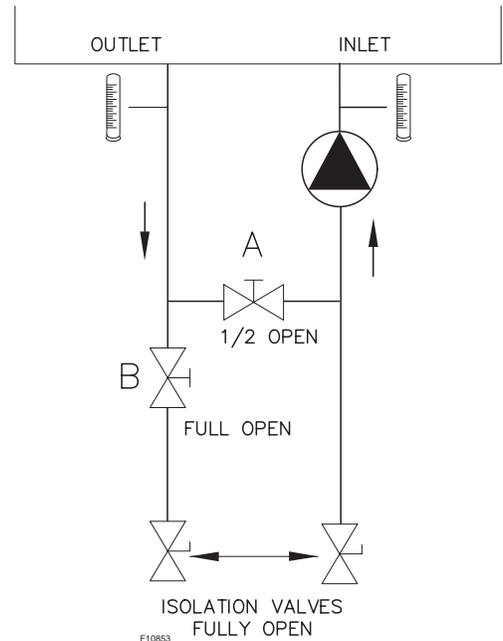

Figure 11. “H” Bypass Setting
3. With the heater operating at 100% firing rate, set Valve A (the bypass) to ½ open position, and Valve B to fully open position. See **Figure 11**.